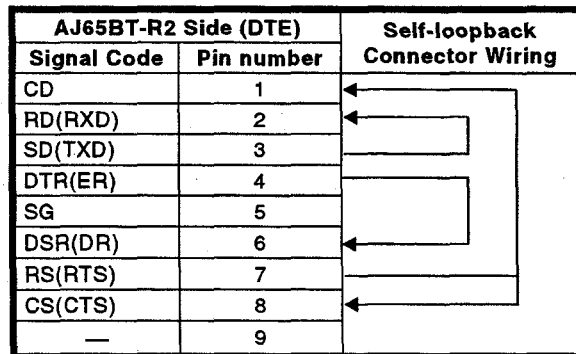

Fig.4.1 Specifications of RS-232C Self-Loopback Connector
*1 The specifications of the connector for RS-232C self-loopback are shown in Fig. 4.1.
Make the RS-232C self-loopback connector shown in Fig. 4.1.